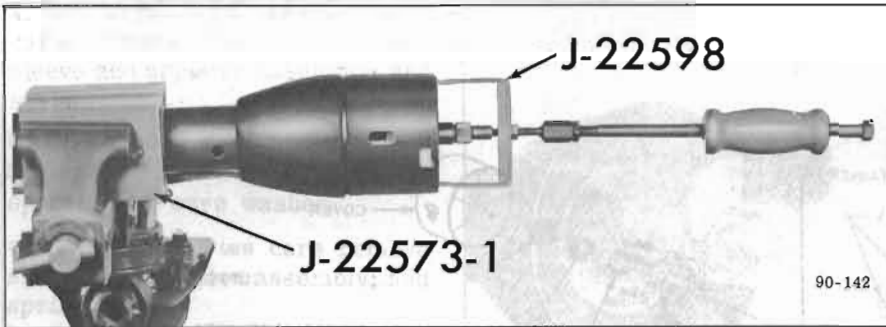

Figure 90-96—Cover Removal
3. Mount column in a vise using special tool J-22573-1 (see Figure 90-96).
5. Push in on hazard warning switch and remove cover using special tool J-22598 (see Figure 90-96).